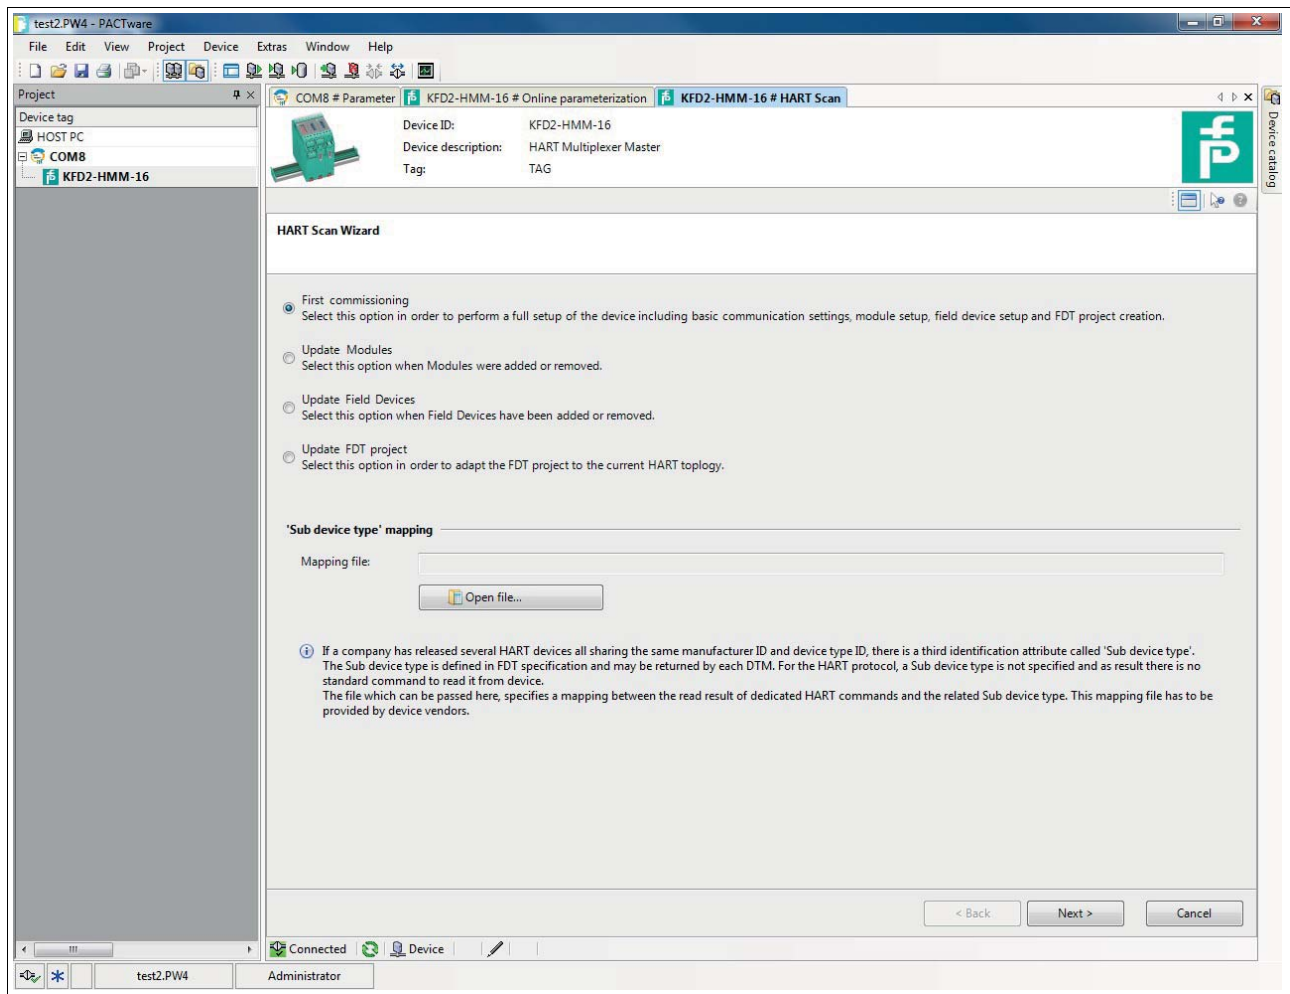

Figure 6.13 HART Scan wizard
1. In the **HART scan wizard** section in the **HART scan** window, select one of the following options, see Figure 6.13: